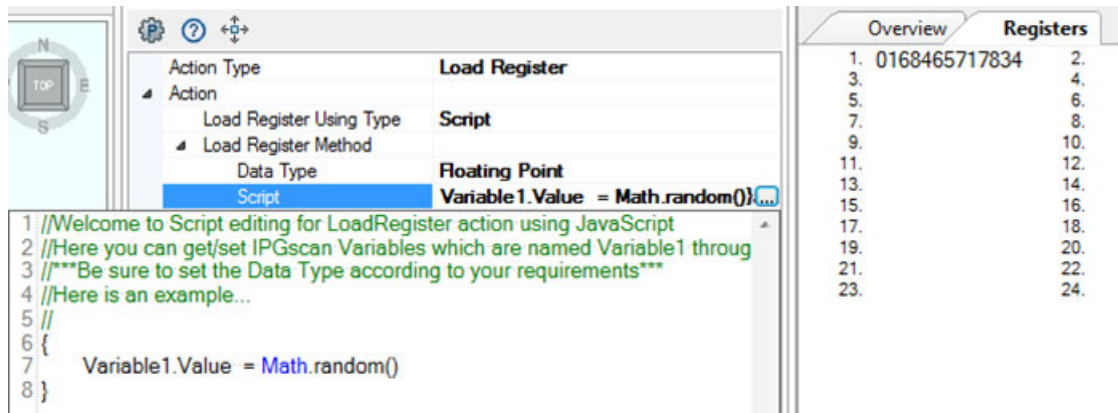

Figure 178: Load Register Script Example
1. Runs a custom JavaScript script. The example in Figure 178 on page 174 shows a script which generates a random number and stores that value in Variable1.